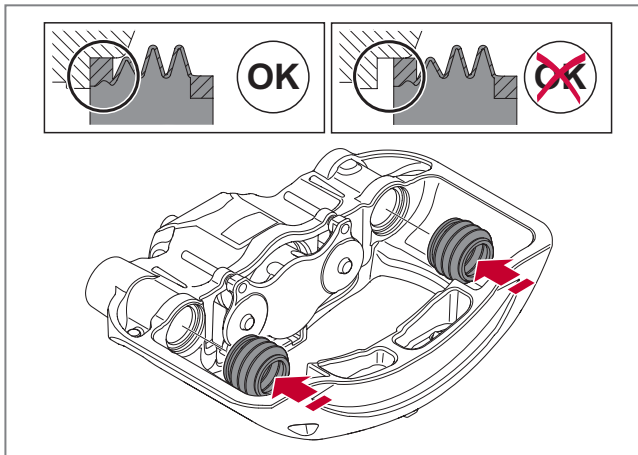

Fig. 69 - Installing the guide pin bellows
6. By hand, firmly push the two new guide pin bellows into the intended position, see ► Fig. 69. It is important to check that the bellows is correctly seated in the brake calliper, do so by looking inside the bellows. Failure to do so may compromise the slide function of the brake.